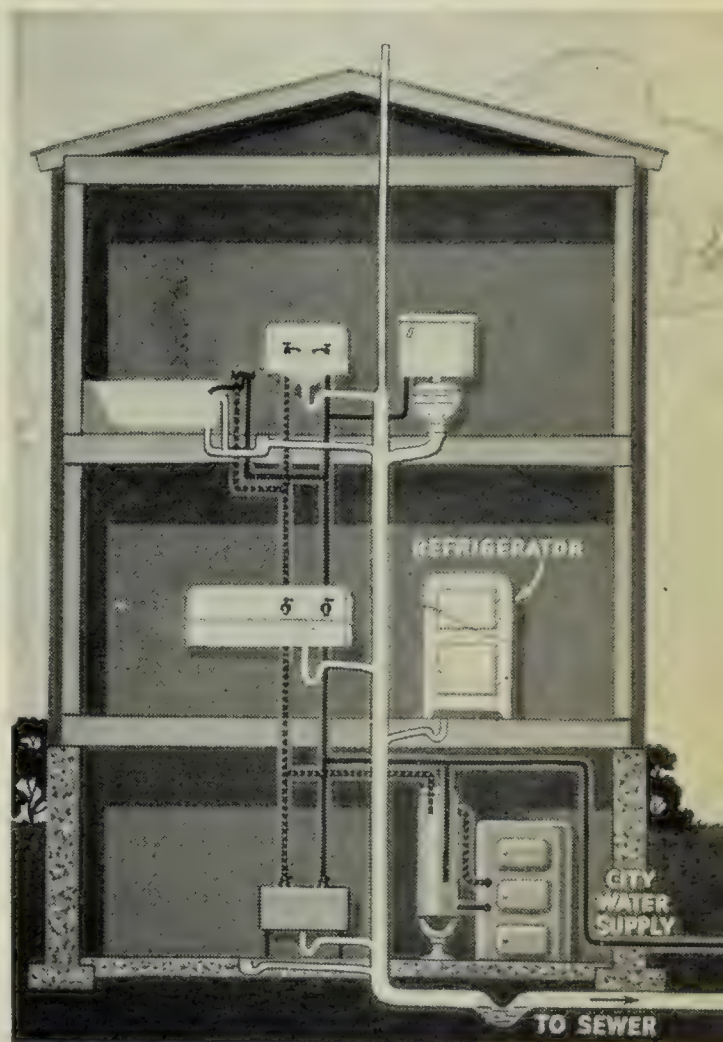

FIG. 261
HOW IS WASTE WATER REMOVED? Another problem in the control of water in the house is the removal of the waste water. Every house that is supplied with city water must also have a drainage system. Figure 261 shows the plumbing in a modern residence. You will notice that below each bathtub or sink there is a curve in the pipe. This curve, or *trap*, is always
2. Draw a house similar to Figure 261 but with a different arrangement of rooms. Put in the plumbing fixtures and connect the pipes properly. Label all the important things shown.